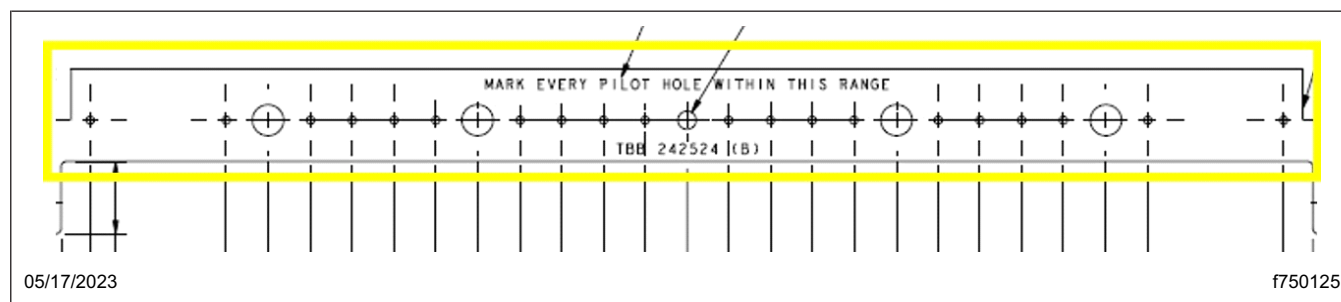
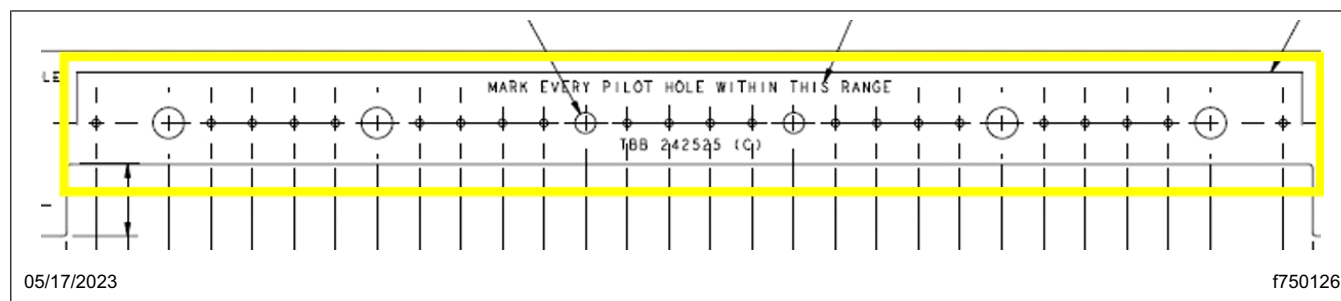

Fig. 21, Region Showing all Pilot Holes to be Marked, Fixture B
Fig. 22, Region Showing all Pilot Holes to be Marked, Fixture C
31. Mark all pilot holes in the region indicated by 'MARK EVERY PILOT HOLE WITHIN THIS RANGE.' See Fig. 21 for fixture B, and Fig. 22 for fixture C.